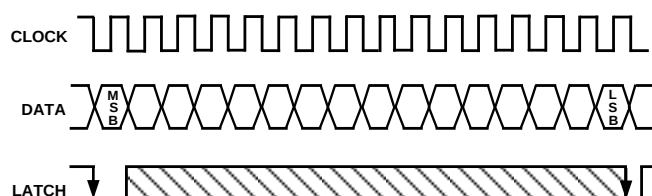
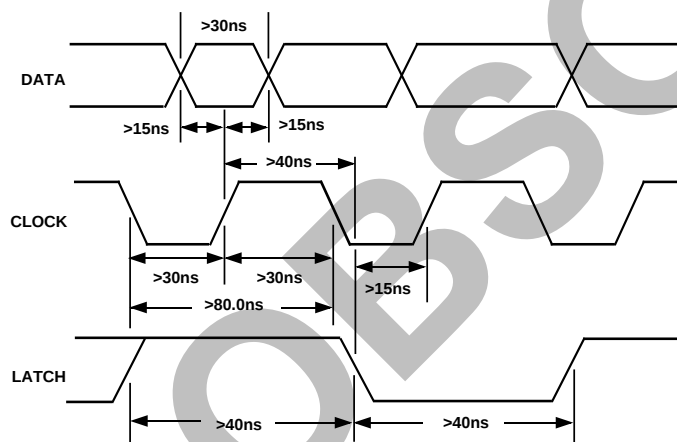

Figure 5. Signal Requirements for AD1851
Figure 6. Timing Relationships of AD1851 Input Signals
Data is transmitted to the AD1851 in a bit stream composed of 16-bit words with a serial, MSB first format. Three signals must be present to achieve proper operation. They are the Data, Clock and Latch Enable (LE) signals. Input data bits are clocked into the input register on the rising edge of the Clock signal. The LSB is clocked in on the 16th clock pulse. When all data bits are loaded, a low-going Latch Enable pulse updates the DAC input. Figure 5 illustrates the general signal requirements for data transfer to the AD1851.
Figure 6 illustrates the specific timing requirements that must be met in order for the data transfer to be accomplished properly. The input pins of the AD1851 are both TTL and 5 V CMOS compatible. The input requirements illustrated in Figures 5 and 6 are compatible with data outputs provided by popular DSP filter chips used in digital audio playback systems. The AD1851 input clock can run at a 12.5 MHz rate. This clock rate will allow data transfer rates for 2 $\times$, 4 $\times$ or 8 $\times$ or 16 $\times$ oversampling reconstructions.